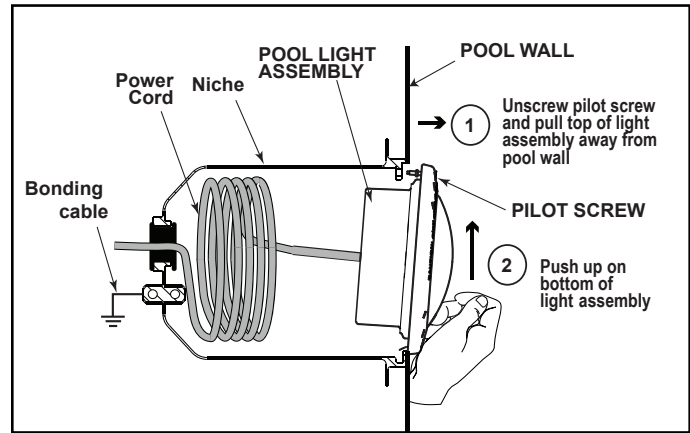

Figure 6. Removing the Jandy WaterColors RGBW LED Light Assembly for Light Driver Replacement
3. To remove the light assembly, unscrew the special pilot screw at the top of the face ring, remove light assembly from niche and gently place assembly on the deck. It is not necessary to drain down the pool. See Figure 6.